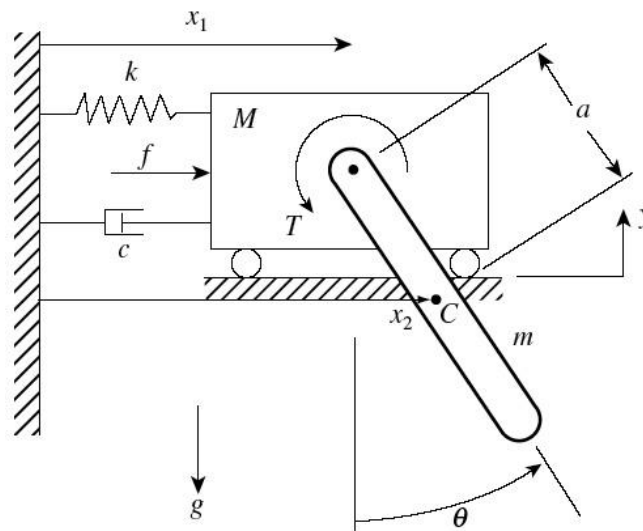

Figure 4/Rajah4
4. (a) Figure 4 shows a cart and pendulum system. The mass of the cart is M and connected to a spring of stiffness k and damping c . It is subjected to a force f and the displacement of the centre of the mass is represented by x_1 . The pendulum is a slender beam of length ℓ with mass m and the centre of gravity located at point C with the distance a from the pivot. x_2 is the linear displacement of point C while θ is the rotational angle of the pendulum. The pendulum is subjected to torque T .